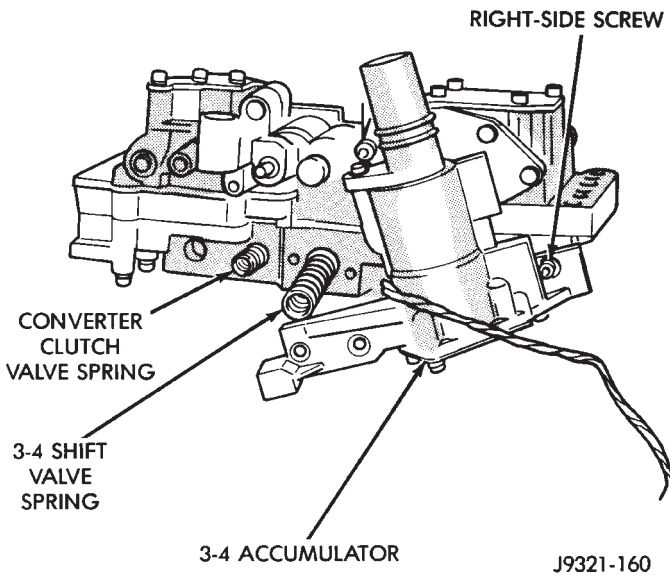
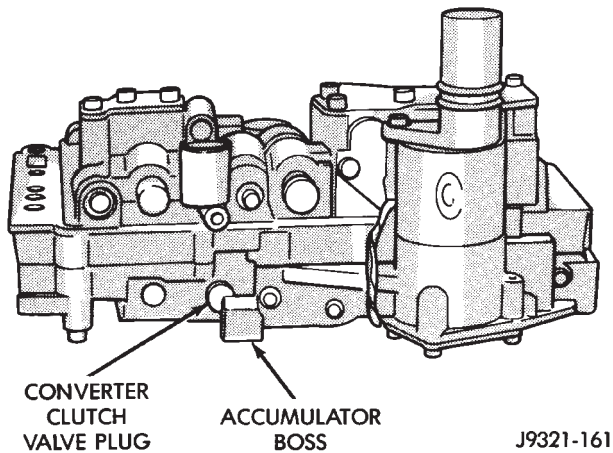

Fig. 134 Installing Converter Clutch And 3-4 Shift Valve Springs
Fig. 135 Seating 3-4 Accumulator On Lower Housing
- (1) Position converter clutch valve and 3-4 shift valve springs in housing (Fig. 134).
- (2) Loosely attach accumulator housing with right-side screw (Fig. 134). Install only one screw at this time as accumulator must be free to pivot upward for ease of installation.
- (3) Position plug on end of converter clutch valve spring. Then compress and hold springs and plug in place with fingers of one hand.
- (4) Swing accumulator housing upward over valve springs and plug.
- (5) Hold accumulator housing firmly in place and install remaining two attaching screws. Be sure springs and clutch valve plug are properly seated (Fig. 135).